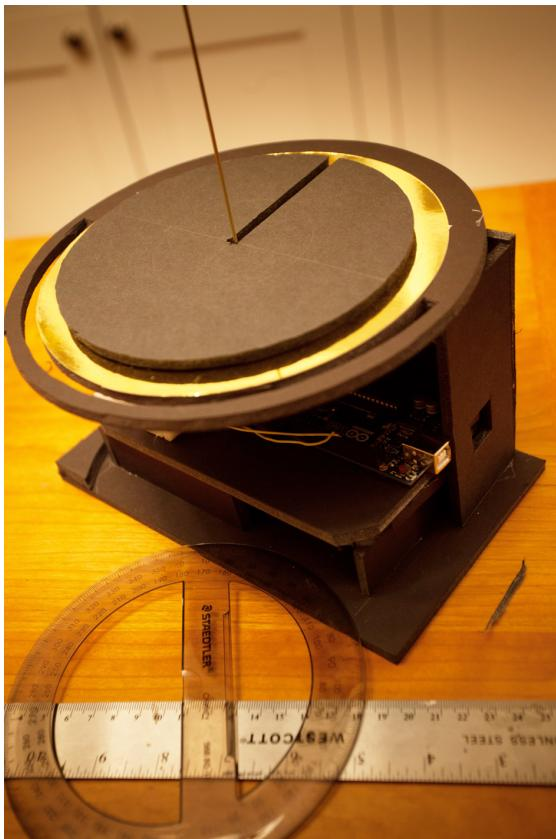

Figure 7-8 Finding the center and placing the guides for the base disk
4. Use a thin rod or awl through the base disk's center to align it with the shaft of the azimuth servo, as in Figure 7-8.